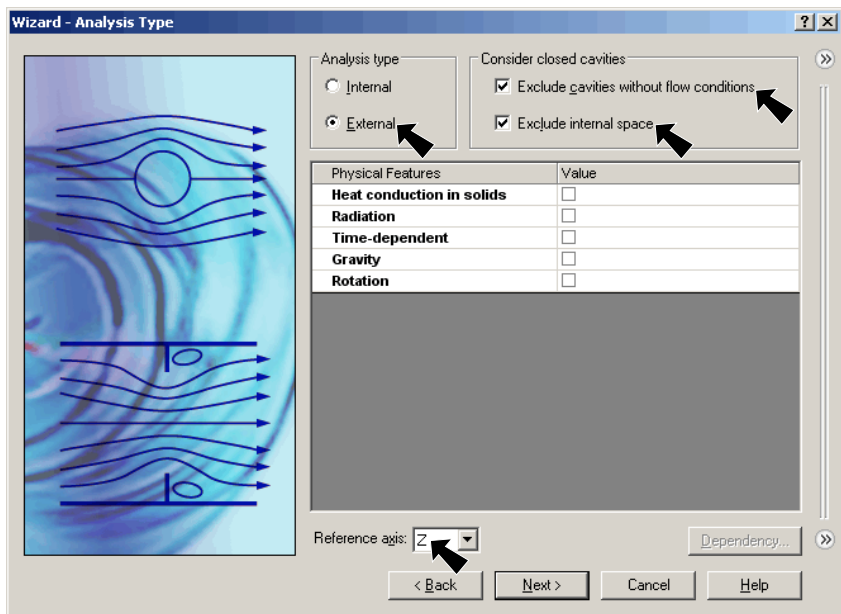

Fig. 5
Step 9. **Analysis Type:** Under Analysis type, select **External**, **Fig. 5**.
Step 10. Check **Exclude cavities without flow conditions** and **Exclude internal space**, **Fig. 5**.
Step 11. Set **Reference axis** to **Z**, **Fig. 5**.